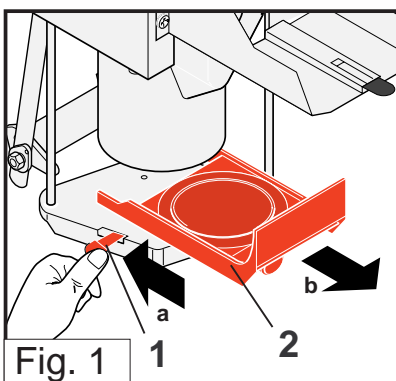

Fig. 1
- Press the lock (1) at the support backwards. Withdraw the filter plate holder (2) completely and rinse it with hot water. (Fig. 1)